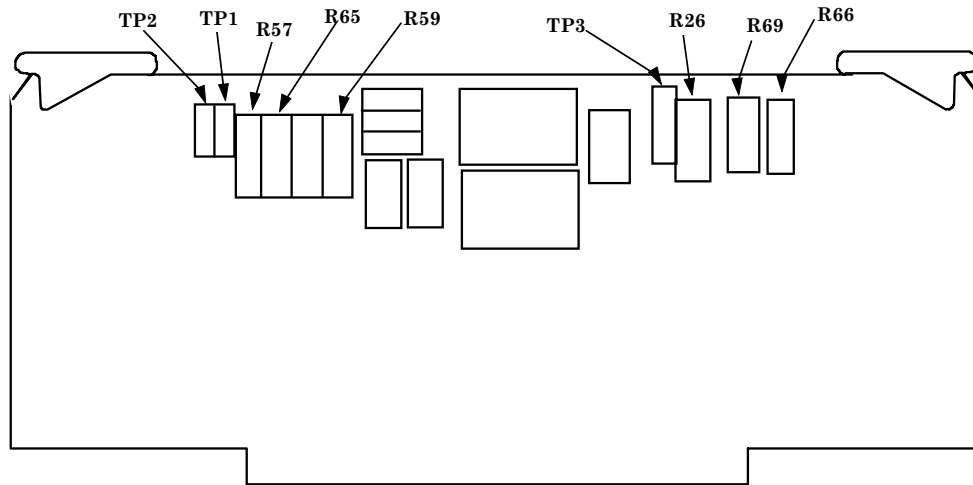

Figure 3. Temperature circuit board.
(1) Connect frequency counter between TP3 (+) and TP2 (-) (fig. 3). Frequency counter will indicate between 97.0 and 103.0  $\mu$ s; if not, adjust R26 (fig. 3) for a 100  $\mu$ s indication on frequency counter (R).
(2) Connect multimeter between TP1 (+) and TP2 (-) (fig. 3). If multimeter does not indicate between 7.255 and 7.295 mV dc, adjust R65 (fig. 3) for an indication of 7.275 mV dc.
(3) Adjust calibrator for a dc millivolt output equal to ambient temperature obtained in table 3, plus .017 mV.
(4) If **TEMP °C** indicator does not indicate **0**, adjust R57 (fig. 3) for an indication of 0 (R).
(5) Adjust calibrator for a 55.820 mV dc, less millivolt equivalent to ambient temperature, output.
(6) Adjust R59 (fig. 3) for **TEMP °C** indicator reading of **1397** (R).
(7) Repeat **a** (1) and **a** (3) through (8) above, as necessary, to ensure **TEMP °C** indicator is in tolerance at both points.
(5) Adjust R66 on temperature board (fig. 3) for **0** indication on **TEMP °C** indicator (R).
(6) Adjust R69 (fig. 3) for **800** indication on **TEMP °C** indicator (R).